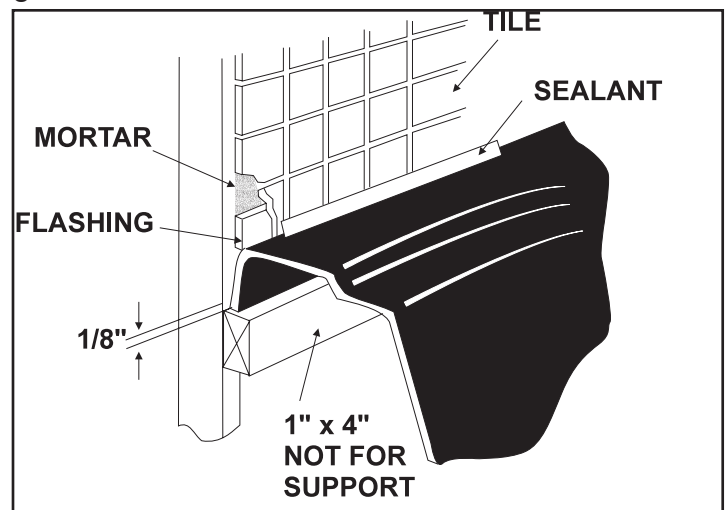
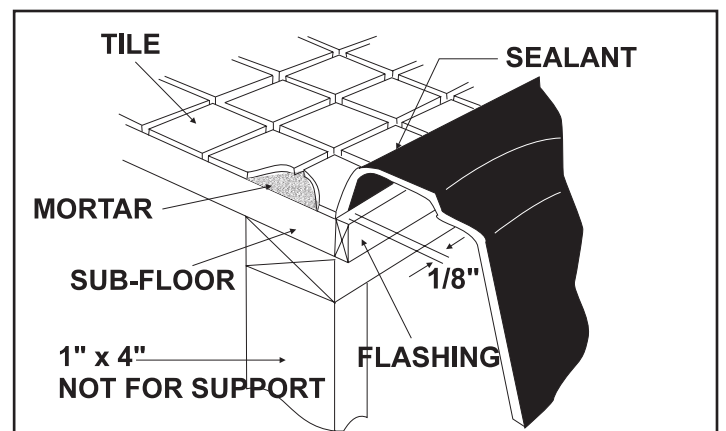

FIGURE 2
FIGURE 3
2.1 There are two basic types of alcove bathing fixture installation and flush to wall (*Figure 2*) and semi-sunken (*Figure 3*). Choose the one that best meets your needs.